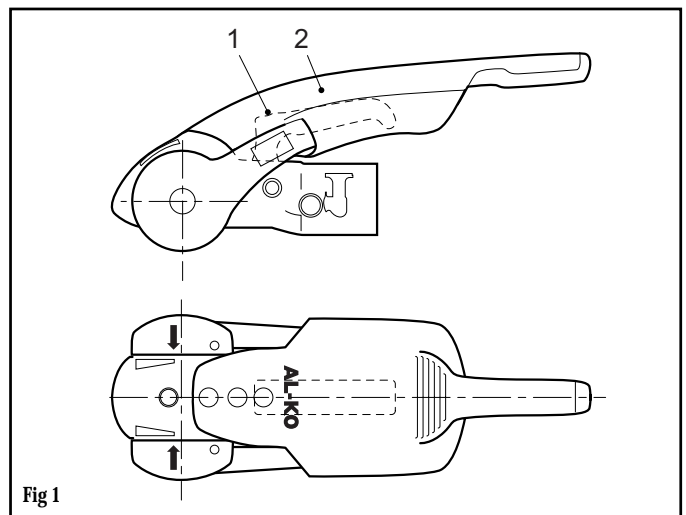

Fig 1
- ✎ Align the wheel so that the receiver can be seen in the centre of the rim opening. DO NOT use the rim opening in which the tyre valve is fitted (Fig 1).
Coupling handle (Fig. 1/Item 1), Stabiliser Lever (Fig. 1/Item 2)